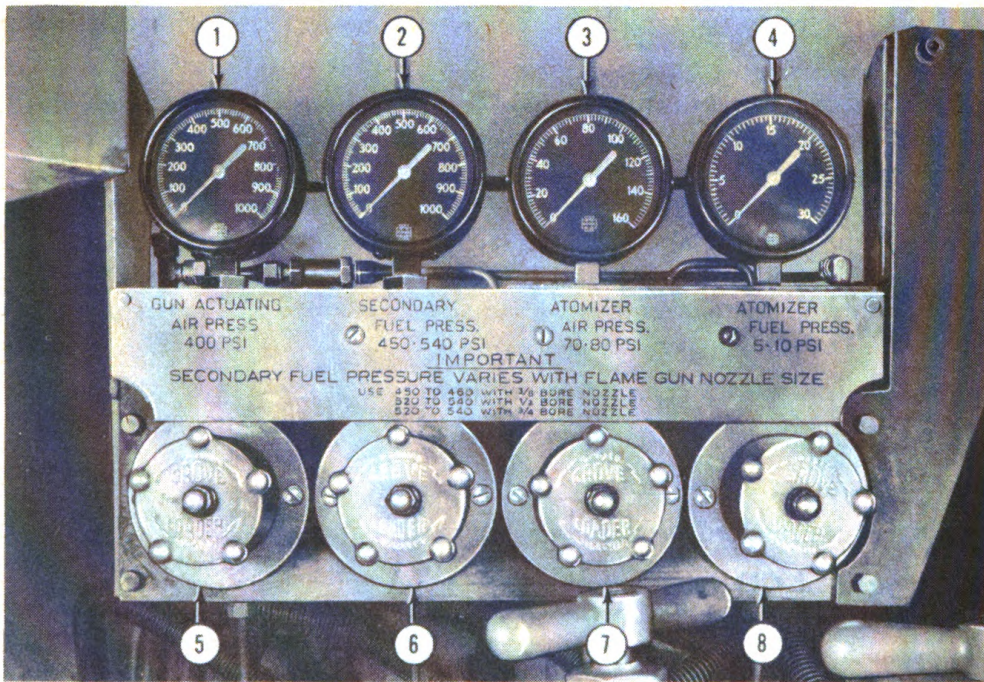

Figure 19—Auxiliary pressure regulators and gages.
(2) *Auxiliary pressure regulators (fig. 19)*. Four auxiliary pressure regulators are located on a vertical panel board. This board is bracketed to the roof of the turret over the basket main fuel container and within reach of the gunner or tank commander. To increase regulated pressure of any of these regulators, turn handle clockwise; to decrease pressure, turn handle counterclockwise and allow system to come to equilibrium. For adjustment, see paragraphs 58 and 59. For repair, see paragraphs 94 and 95. These regulators are as follows:
Legend for Figure 19
d. Gun actuating air pressure gage (fig. 19). A gun actuating air pressure gage (3½-inch dial heavy duty pressure gage reading from 0 to 1,000 pounds per square inch) is located on the regulator panel board (which is mounted to the left rear turret roof).
e. Secondary fuel pressure gage (fig. 19). A secondary fuel pressure gage (3½-inch dial heavy duty pressure gage reading from 0 to 1,000 pounds per square inch) is located next to the gun actuating air pressure gage, on the regulator panel board (which is mounted to the left rear turret roof).
f. Atomizer air pressure gage (fig. 19). An atomizer air pressure gage (3½-inch dial heavy duty pressure gage reading from 0 to 160 pounds per square inch) is located next to the secondary fuel pressure gage, on the regulator panel board (which is mounted to the left rear turret roof).
g. Atomizer fuel pressure gage (fig. 19). An atomizer fuel pressure gage (3½-inch dial heavy duty pressure gage reading from 0 to 30 pounds per square inch) is located next to the atomizer air pressure gage, on the regulator panel board (which is mounted to the left rear of the turret roof).
i. Check gun actuating air pressure gage on panel board (fig. 19) and adjust (par. 58 b) to the same pressure as shown by main fuel pressure gage (375 to 400 pounds per square inch) in **f** above.
j. Check and adjust secondary fuel pressure (fig. 19) to 520 to 540 pounds per square inch (par. 58 b).
k. Check and adjust atomizer air pressure (fig. 19) to 75 pounds per square inch (par. 59 b).
l. Check and adjust atomizer fuel pressure (fig. 19) to approximately 7 pounds per square inch (par. 59 b).